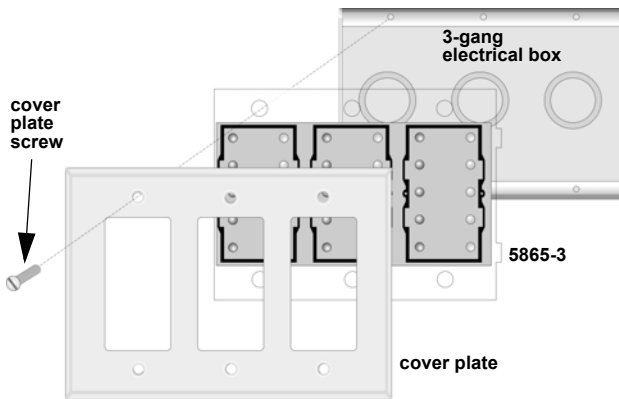

Figure 1 TR-5865-3 Mounting
2. Place the TR-5865-3 into the 3-gang electrical box. See Figure 1.
3. Place the cover plate over the top of the TR-5865-3 and align the holes. See Figure 1.